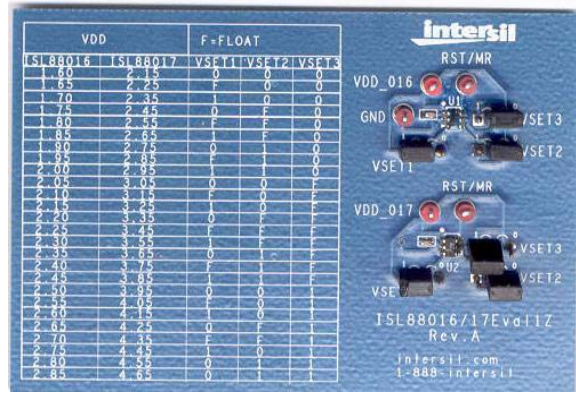
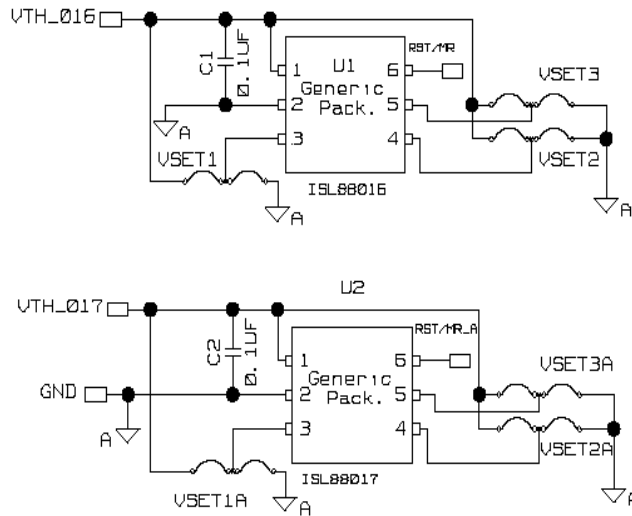

FIGURE 5. ISL88016/17EVAL1Z PHOTOGRAPH
FIGURE 4. ISL88016/17EVAL1Z SCHEMATIC
The ISL88016/17EVAL1Z platform is provided with both an ISL88016 in the top and an ISL88017 in the bottom positions. Each IC is default programmed to VSET1, VSET2 and VSET3 = FLOAT but provided with jumpers to change the  $V_{th}$  level by individually connecting the three VSET pins to either  $V_{DD}$  (1) or GND (0). To the left of the circuits is a VSET programming table for easy reference. Provide adequate bias to  $V_{DD}$  to deassert RESET signal. See Figure 4 for the ISL88016/17EVAL1Z schematic and Figure 5 for its photograph.